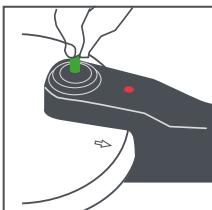

Fig. 13
Working valve (3) (Level model). This is the green plunger with rings. Hold it and pull it outwards. You will notice slight resistance and you will see the pressure indicator rings come out. The plunger will return to its initial position quickly when you release it (Fig.13).